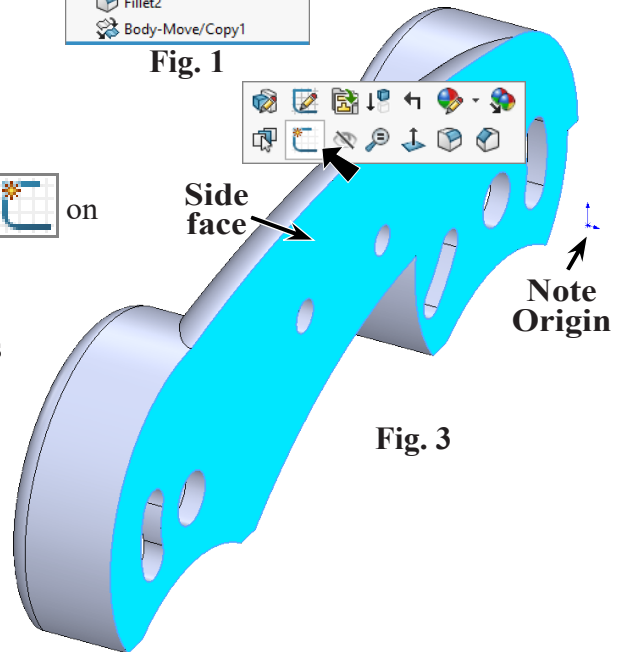
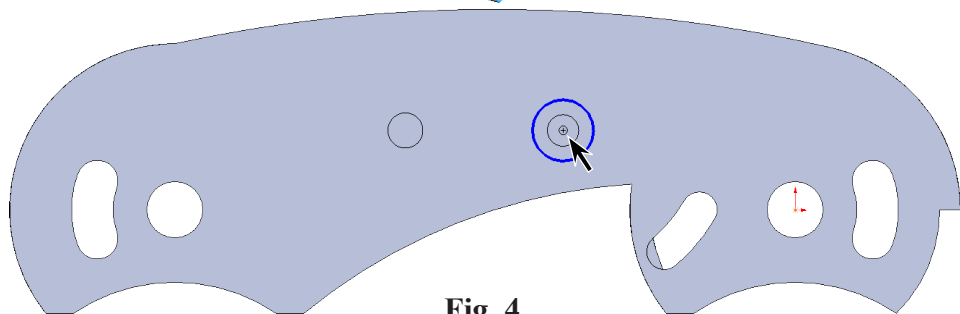

Fig. 3
Fig. 4
- Step 1. Click the **side face of body** and click Sketch  on the context toolbar, **Fig. 3**.
- Step 3. Click **Circle**  (S) on the Sketch toolbar.
- Step 4. Sketch **circle centered at the Idler hole**, **Fig. 4**.